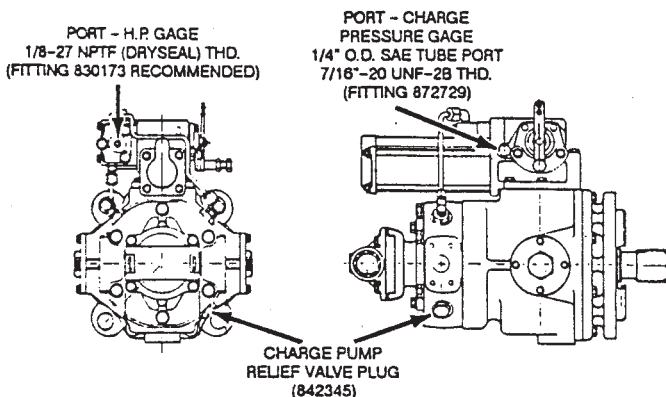

Figure 35. Generation II Pump
1. Refer to Figures 35. and 36. Install high pressure gauges at motor and charge pressure gauge at pump control.
5. Remove charge pump relief valve plug, spring and plunger, and install blanking plug (see Figure 35.).
1. Install gauge in low and high pressure ports of motor (refer to Figure 35.).
- a. Install high pressure gauge in high pressure port of pump control (refer to Figure 35.).
- a. Install high pressure gauge in high pressure gauge port of pump control (refer to Figure 35.).